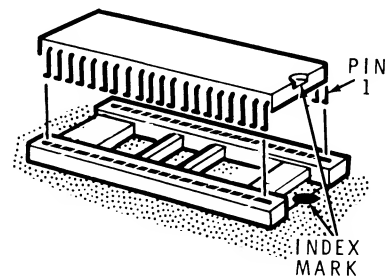

Figure 18-5. Installing the 8087
5. Refer to Figure 18-5 and position pin 1 of the 8087 over pin 1 of the socket. Make sure each pin is in line with and started into the socket.